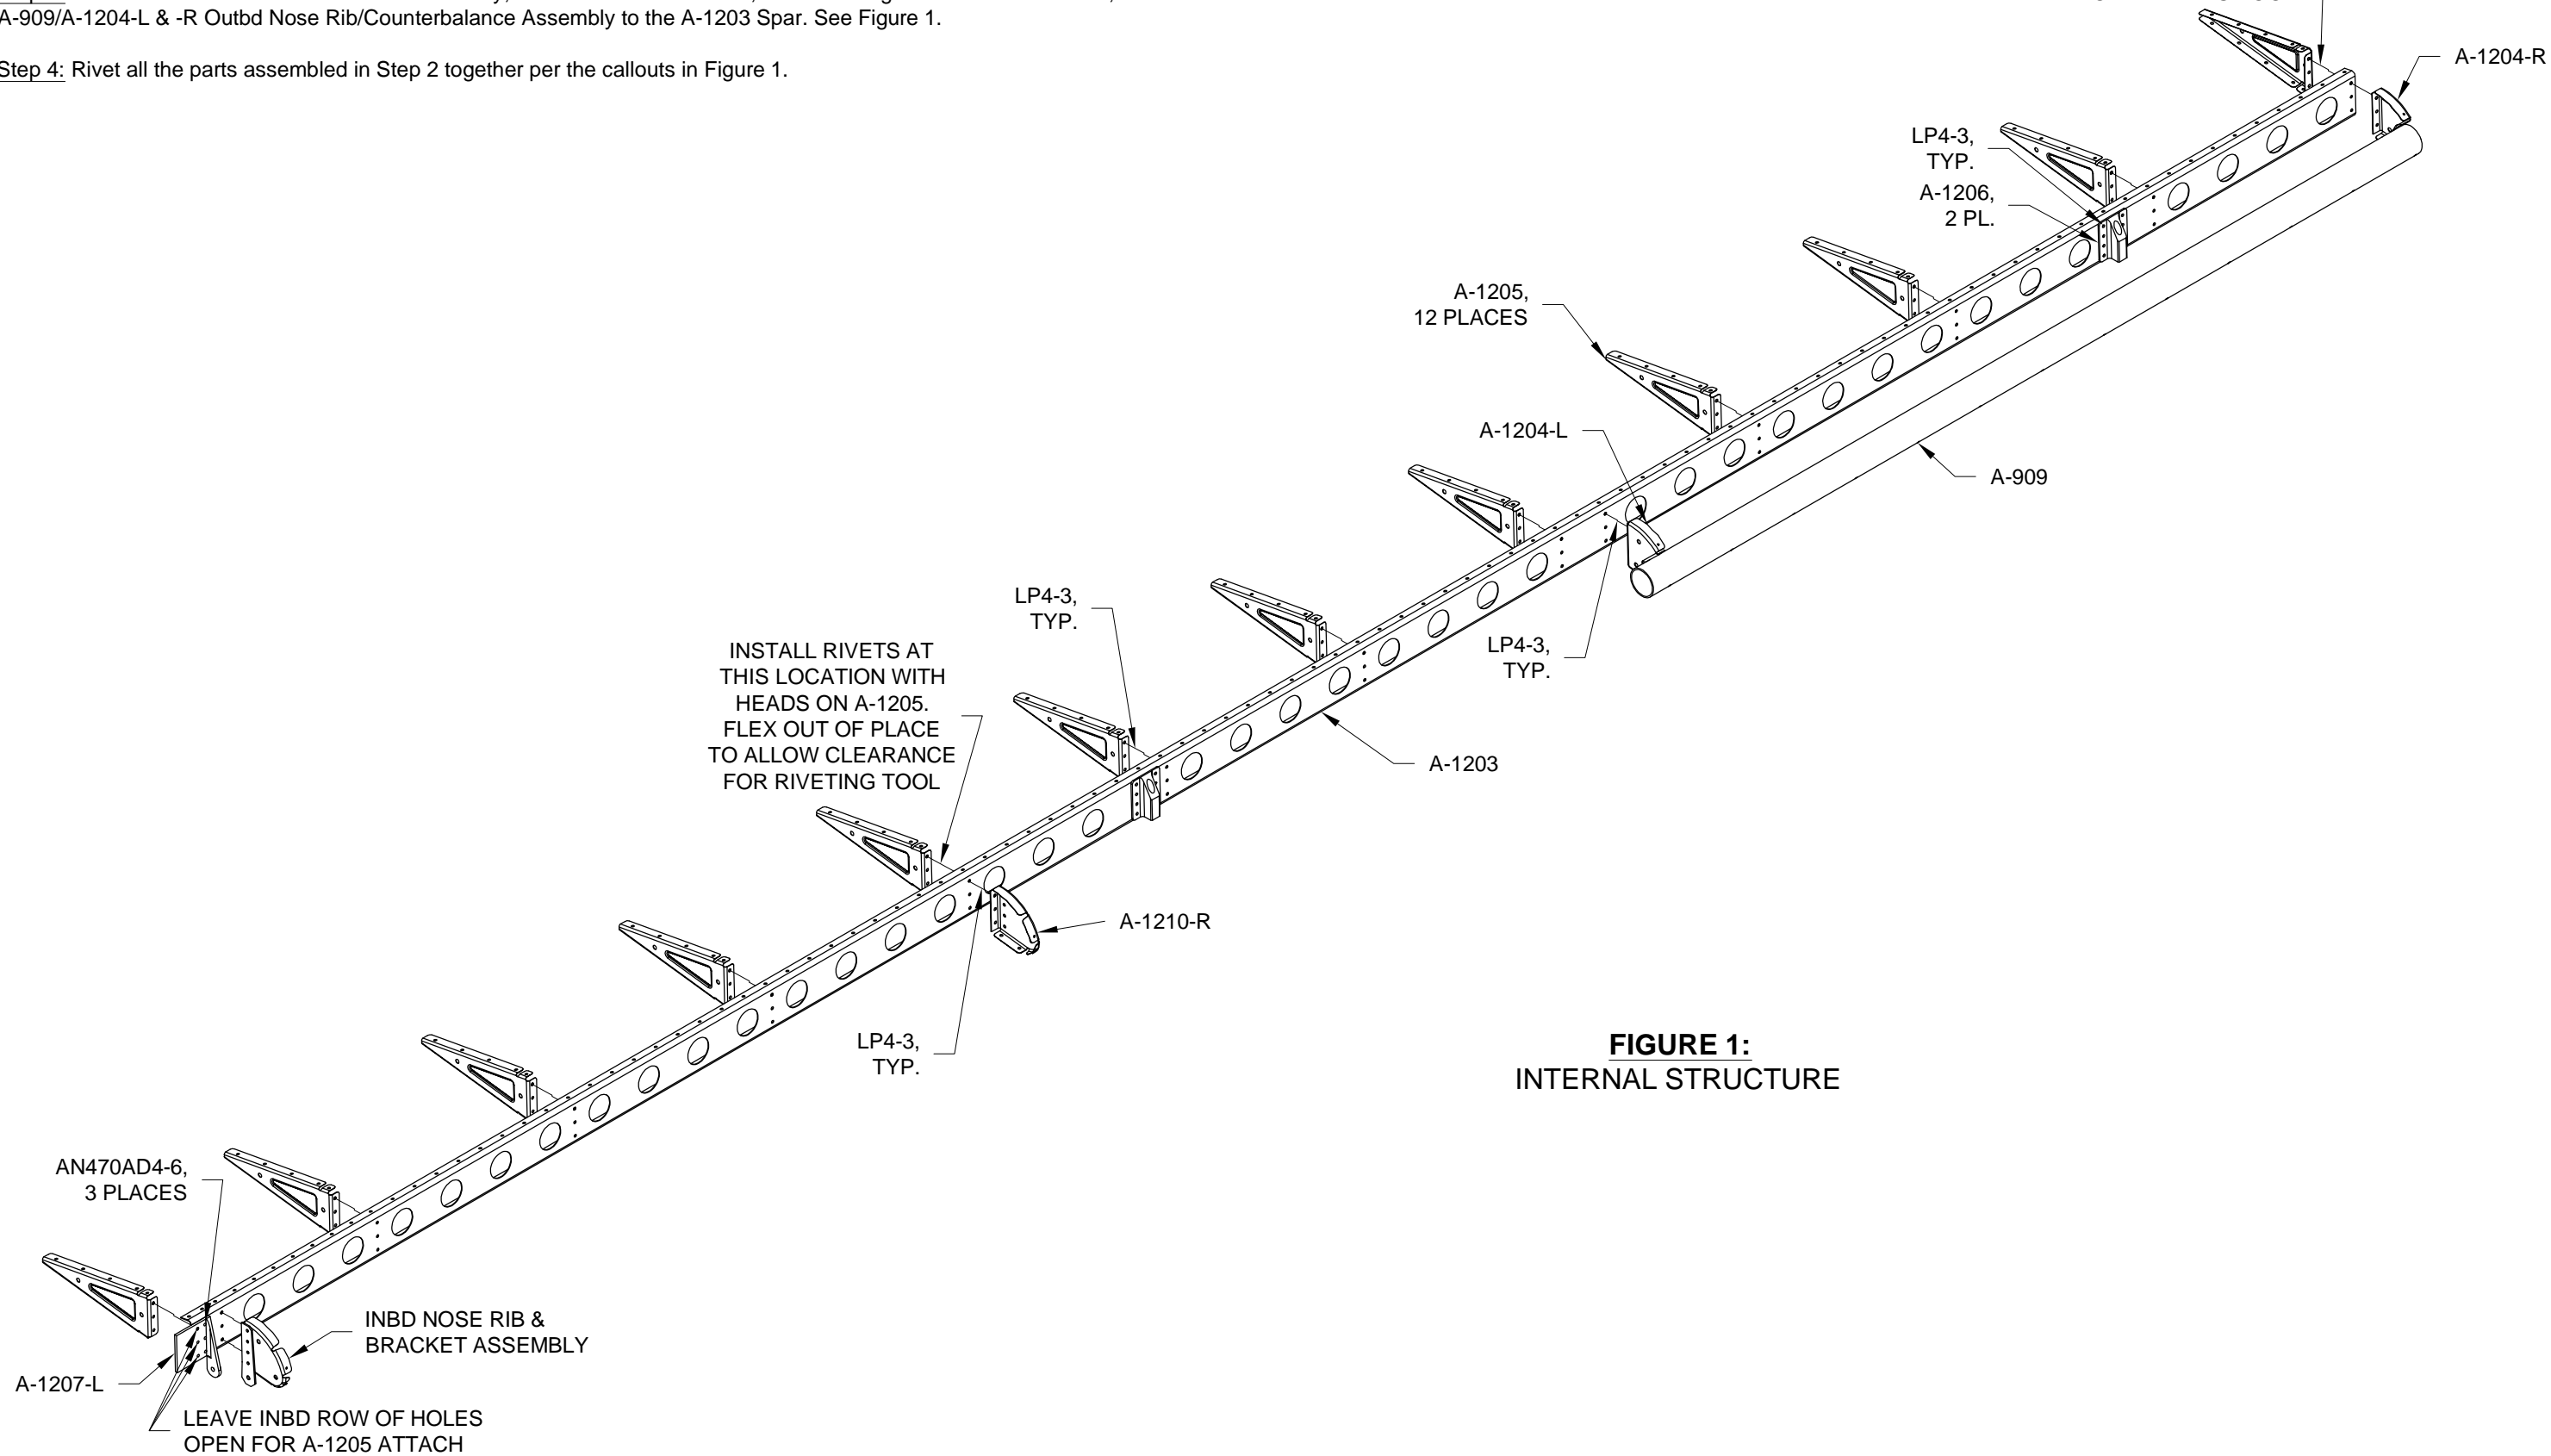

FIGURE 1:
Step 1: Rivet the A-1207-L Actuation Bracket (outboard row of rivets only), A-1206 Pivot Brackets and A-1203 Spar together per the callouts in Figure 1.
Step 2: Cleco ten of 12 A-1205 Main Ribs to the A-1203 Spar. Leave the 5th rib from the inboard end and the most outboard main rib un-clecoed. Rivet the main ribs to the spar using the rivets called-out in Figure 1.
Step 3: Cleco the Inbd Nose Rib & Bracket Assembly, A-1210-R Inbd Nose Rib, the remaining two A-1205 Main Ribs, and the A-909/A-1204-L & -R Outbd Nose Rib/Counterbalance Assembly to the A-1203 Spar. See Figure 1.
Step 4: Rivet all the parts assembled in Step 2 together per the callouts in Figure 1.
Step 2: When satisfied with the fit of the A-1202B Outbd Flaperon Skin and A-1202A-L Inbd Flaperon Skin, rivet the outbd flaperon skin and inbd flaperon skin to the A-1205 Main Ribs and to each other as shown in Figure 1.